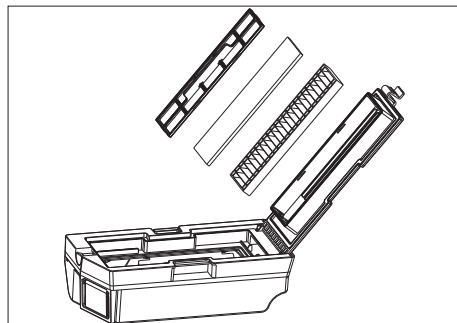

Fig. 18 – Opening dust container/remove filter
- ▶ Remove the dust filter before cleaning with water (**see Fig. 18**).
- ▶ Reinsert the filters in the correct order (see Fig. 18).